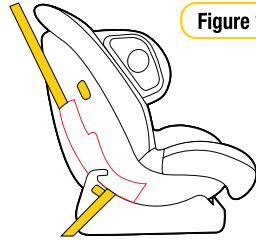

Figure 2
Step 2: Feed adult lap or lap/sash belt through the belt path opening base. (refer Figure 2 & 3)